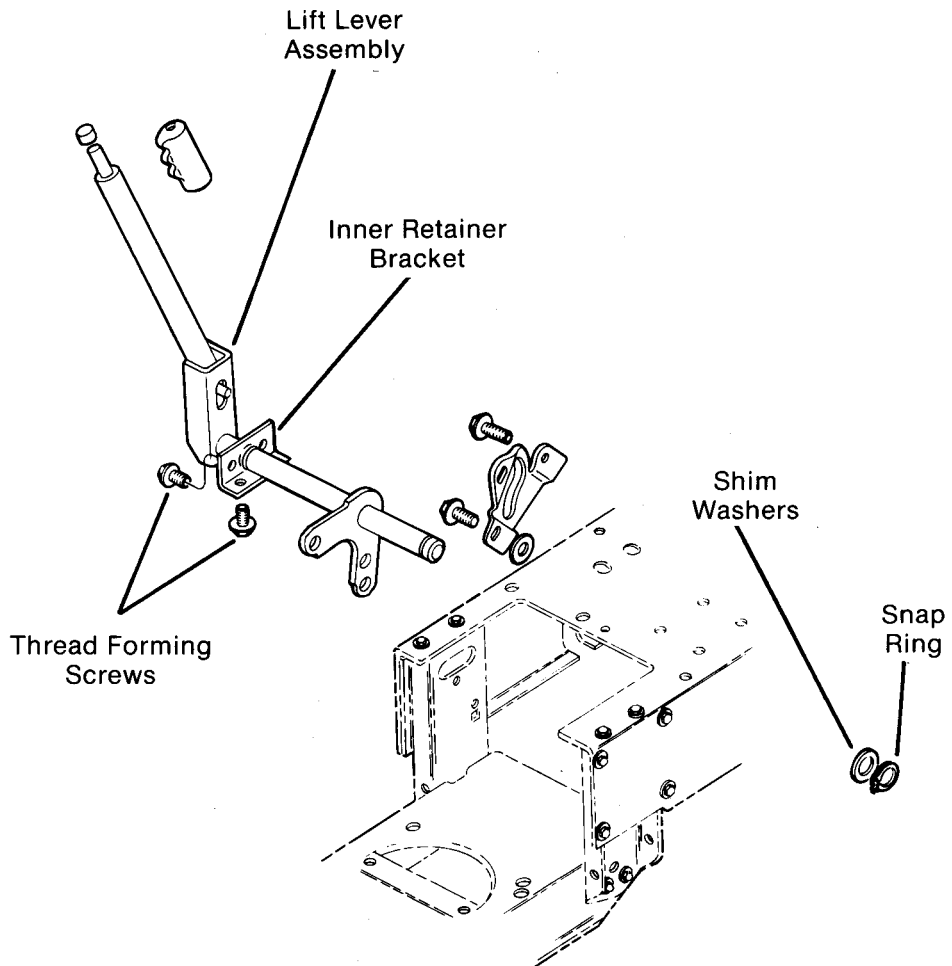

FIG. 65
- C. Remove snap ring and all thrust (shim) washers from left end of lift lever shaft. (Fig. 65)
- D. Remove four thread forming screws securing inner retainer bracket to right frame rail. (Fig. 65) Slide bracket away from frame until it clears frame lip. Pull lift lever handle down and away from right side of tractor until left side of shaft comes out of frame. Work lift lever assembly out bottom of tractor.